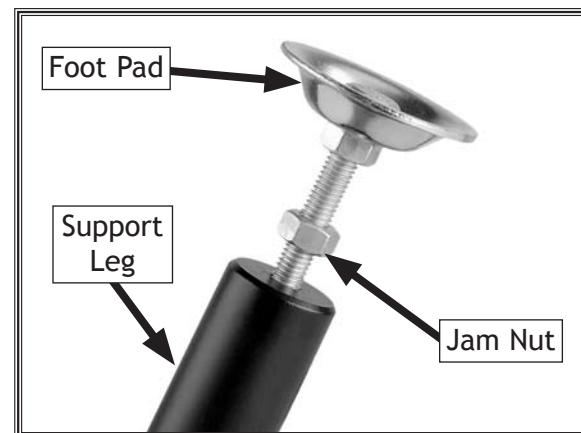

Figure 5. Foot pad bolt threaded into the support leg.
3. Thread the foot pad assembly into the bottom of the support leg, as shown in **Figure 5**. For now, do not tighten the jam nut up to the leg so that you can adjust the height of the leg in a later step.